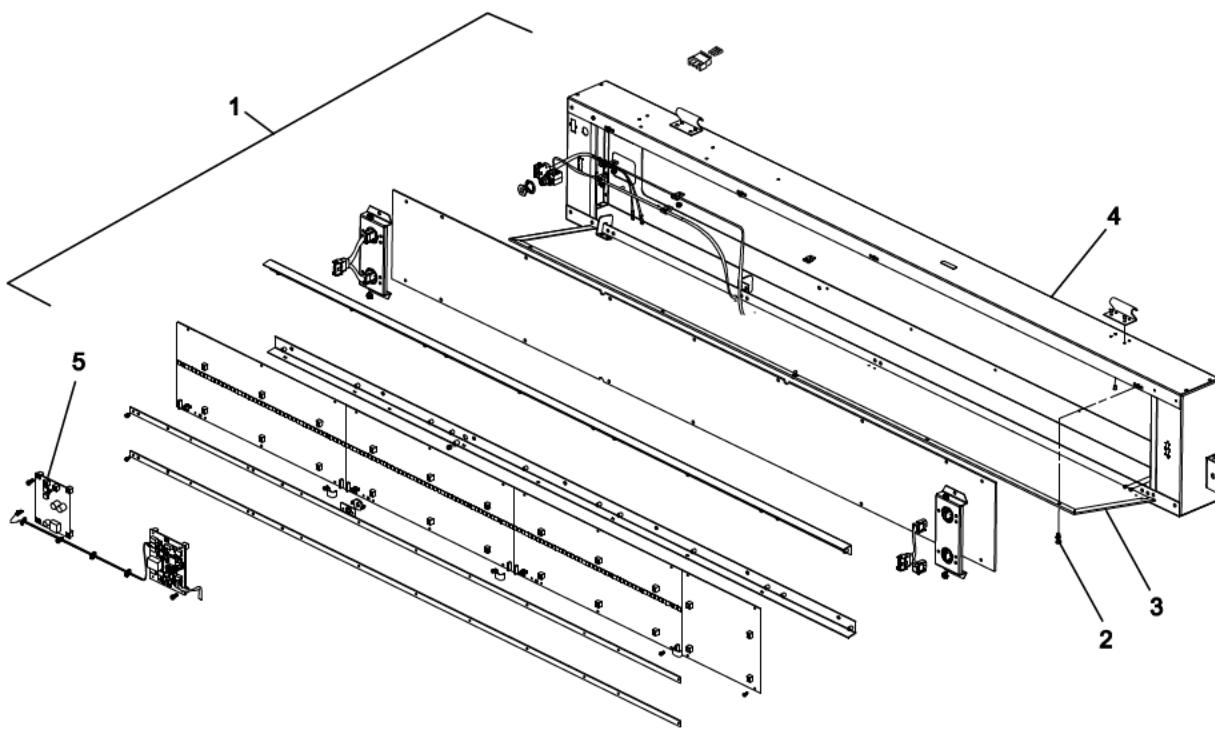

Figure 8-18: Replace Front Destination Sign Power Supply PCB
1. Remove front destination sign assembly (1, Figure 8-18) from its mounted location.
2. Remove ten 6-32 x 5/16 SEM screws (2) that secure backplate assembly (3) to front panel assembly (4).
3. Carefully separate backplate assembly (3) from front panel assembly (4) to access electrical wiring and harnesses.
4. Tag and disconnect electrical wiring connectors from the power supply PCB (5).
5. Remove power supply PCB (5).
6. Install replacement power supply PCB (5) with connectors J1 and J2 upwards.
7. Connect electrical wiring connectors to the power supply PCB (5).
8. Install the backplate assembly (3) to the front panel assembly (4) using ten 6-32 x 5/16 SEM screws (2).